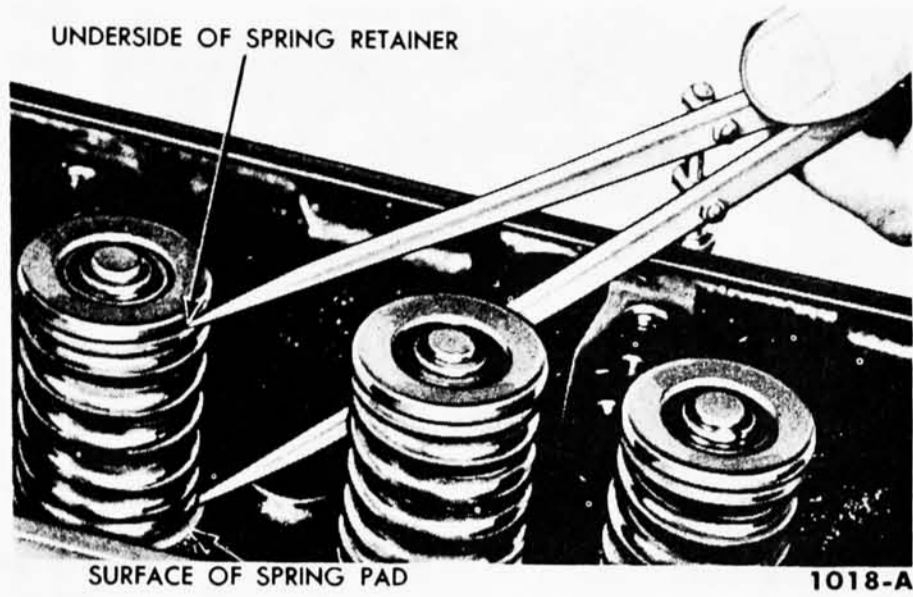

Fig. 17—Valve Spring Assembled Height
**VALVE SPRING ASSEMBLED HEIGHT.** Correct valve spring load is necessary for efficient high speed engine operation; therefore, the assembled height of the spring installed in the engine should be measured (Fig. 17).